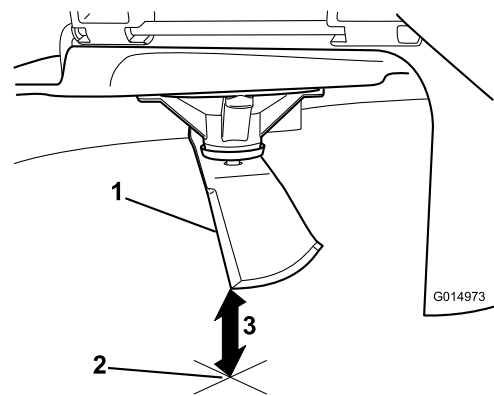

Figure 92
3. Measure from the tip of the blade to the flat surface (Figure 92).